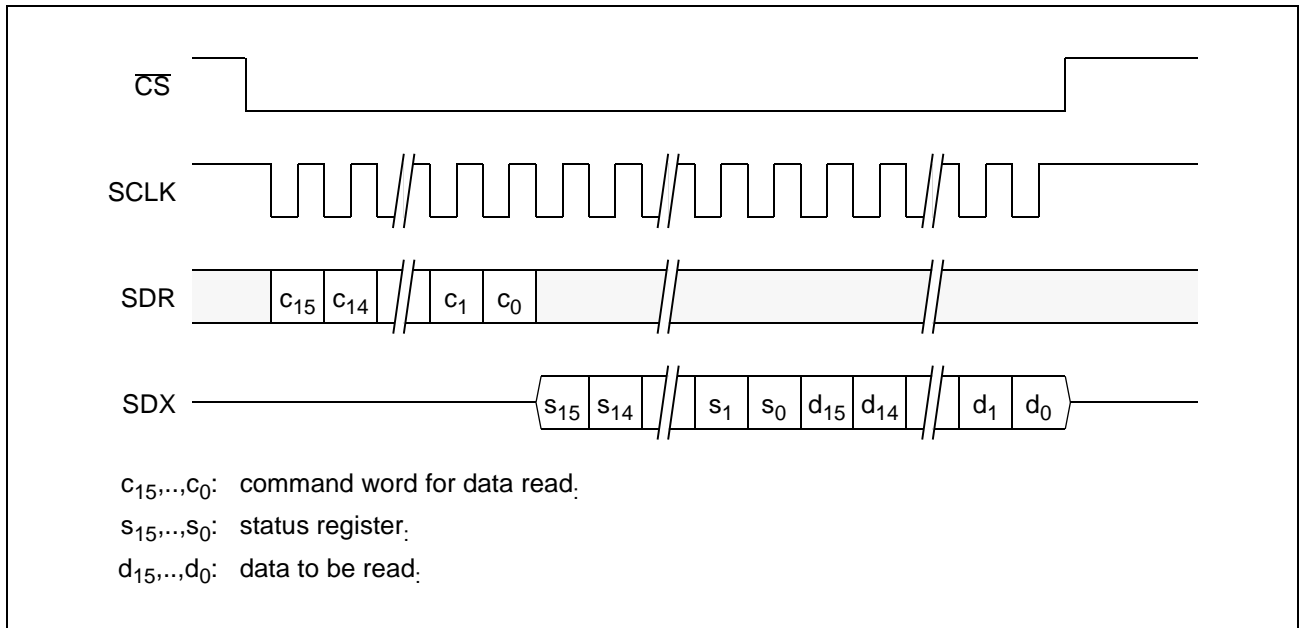

Figure 52 Data Read Access
*Note: Reading any register except the status register or a hardware configuration register requires at least two accesses. The first access is a register read command (figure 55). With this access the register address is transferred to the. After that access data read accesses (figure 52) must be executed. The first data read access with STATUS:RDY=1 delivers the value of the register.*